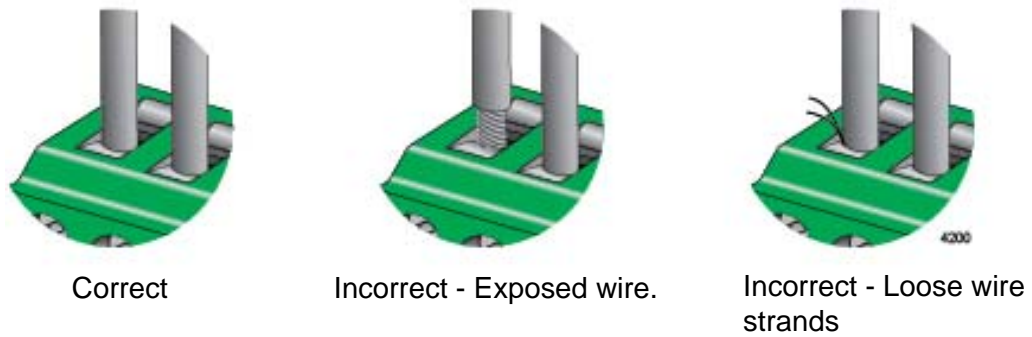

Figure 46. Verifying the Wire Installation
6. After attaching the wires to the connector, verify that there are no exposed wires or loose wire strands. Refer to Figure 46 on page 91.